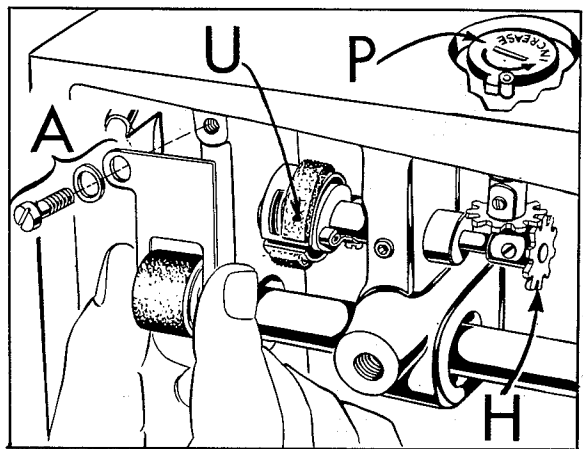

Fig. 24
12. Assemble the hook oil feed roller (A, Fig. 24), and rotate the metering cup so that the roller contacts the metering cup felt at point (U, Fig. 24). Turn the oil control adjusting shaft (P, Fig. 24) in the increase direction until projection stops against the stop pin (this is maximum oil supply) and install the cog (H, Fig. 24) on the hook oil control shaft. After meshing the teeth, tighten the set screw securely.